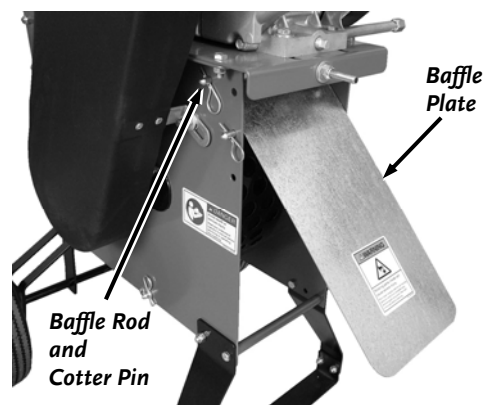

Figure 9
1. Remove the Baffle Plate by removing the Cotter Pin on the Baffle Rod and then removing the Baffle Plate (**Figure 9**).